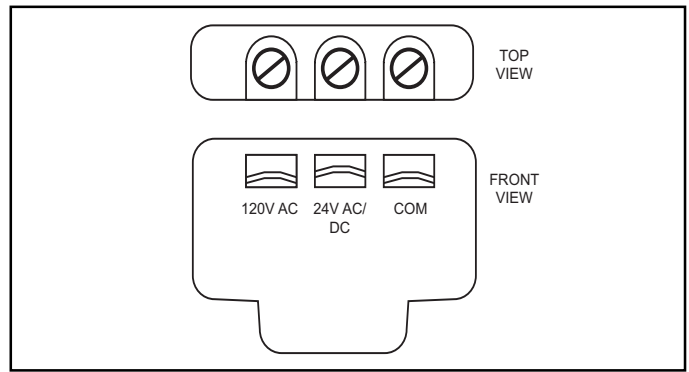

Figure 3. Terminal Block
- Refer to Figure 3 and connect as instructed below: